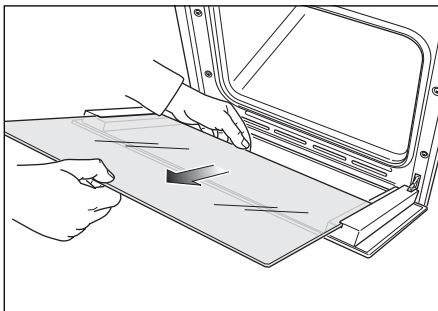

Fig.47e
- Gently pull out the inner pane of glass (Fig. 47e).